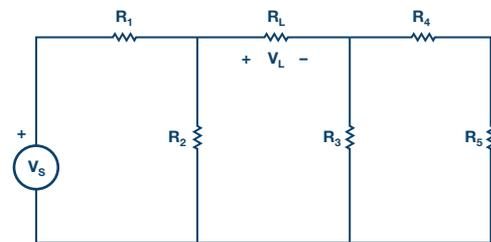

Figure 2. Thévenin equivalent circuit of Figure 1.
- ▶ a) Construct the circuit of Figure 2 using the following component values:
- ▶ e) Obtaining V_{TH} and R_{TH} , construct the circuit of Figure 2. Create the value of R_{TH} using a series and or parallel combination of resistors from your parts kit. Using the meter-source tool, connect channel CA for the V_{TH} source and set the value to what you measured for V_{TH} in Step c.
- ▶ 1. Using voltage division for the circuit of Figure 2, calculate V_L . Compare it to the measured values. Explain any differences.